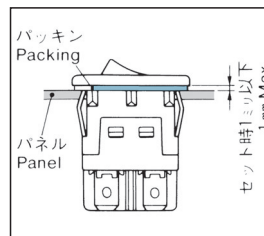

Fig.2.
- Mount the switch on the panel so that the thickness of packing is 1 mm or below. (See Fig. 2.)